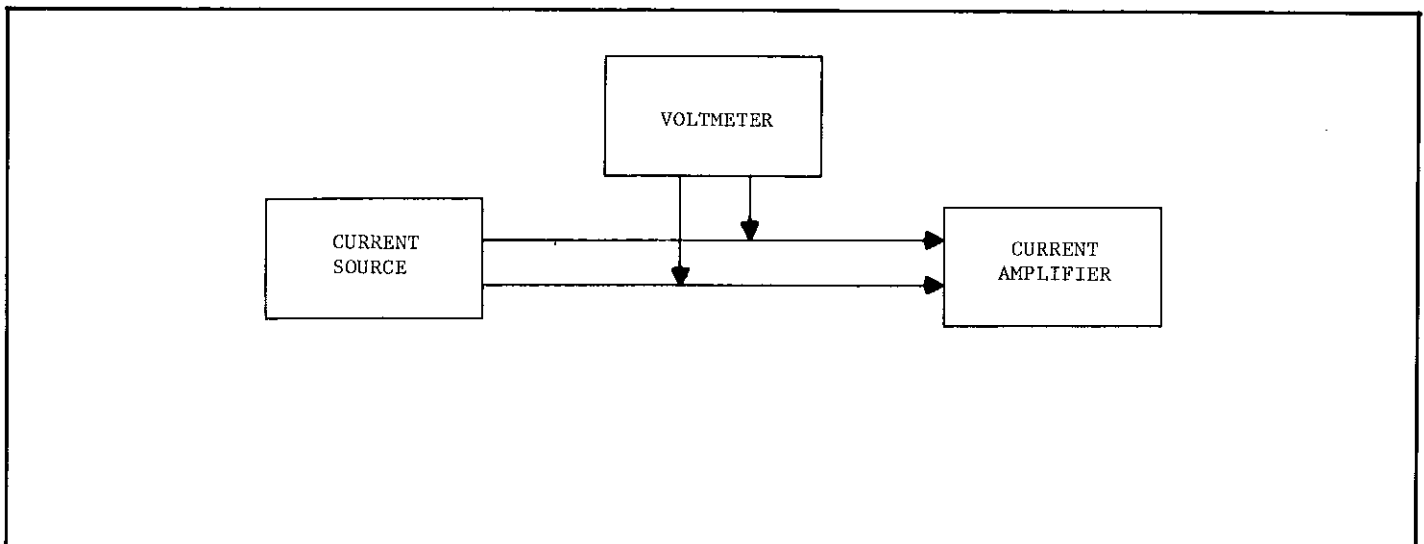

FIGURE 23. Measurement of Input Voltage Drop.
a). Set the Model 261 to  $10^{-6}$  ampere and the Model 427 gain to  $10^7$  V/A and connect the test set up as shown in Figure 23 using a BNC TEE connector on the Model 427 input.